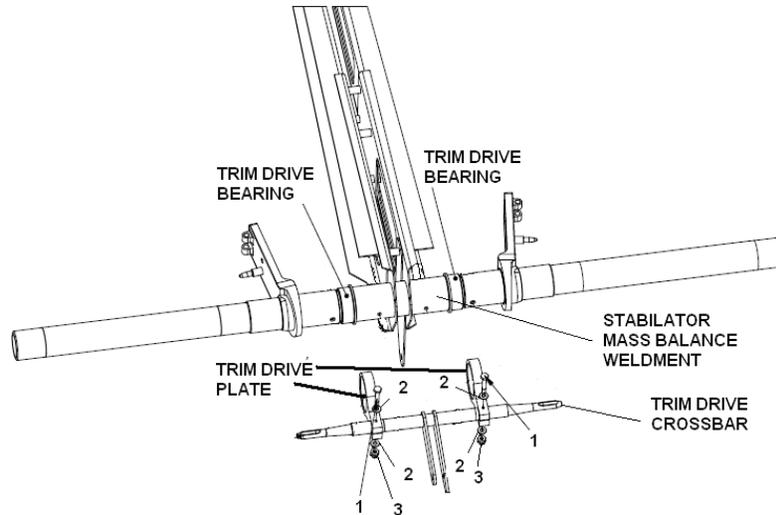

Figure 55-12 Stabilator Mass Balance Weldment
5. Remove cotter pins, nuts, washers, and bolts (2) from stabilator mass balance weldment and torque tube.
6. Refer to Figure 55-12. Remove two cotter pins, nuts (3), washers (2), and bolts (1) from trim drive assembly and slide trim drive plates from trim drive bearings and stabilator mass balance weldment.
4. Refer to Figure 55-12. Slide trim drive plates into position on bearing surfaces on mass balance weldment.
17. Refer to Figure 55-12. Reassemble trim drive assembly by inserting trim drive crossbar into trim drive plates, installing bolts, washers, and nuts. Torque to the lowest value of torque as shown in Chapter 20 – Standard Practices. Continue to torque to nearest castellated slot for split pin. Do not exceed the highest value of torque as shown in Chapter 20 – Standard Practices. Install a new split pin.